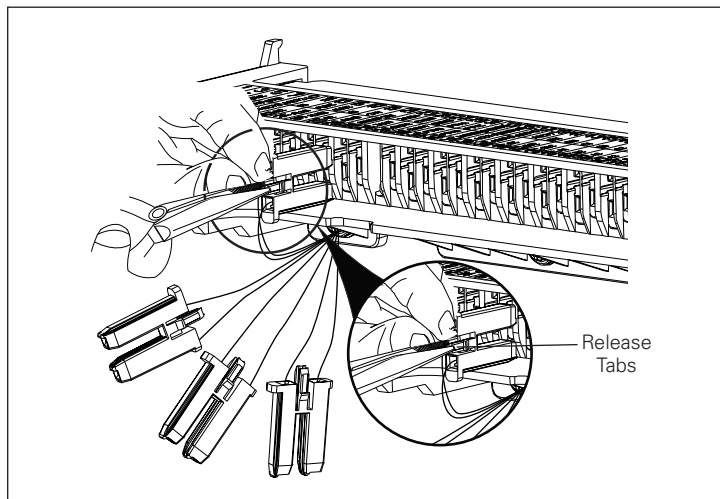
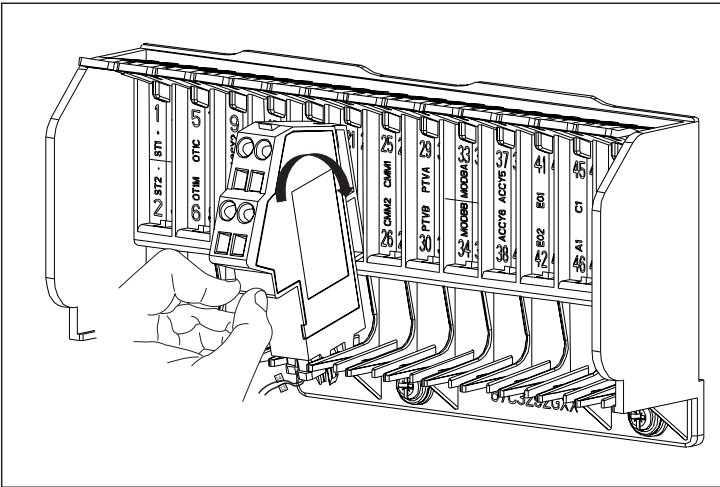

Figure 31. Connector Plug Removal.
Figure 35. Step 4.
2. Secondary connections are made by plugging the connector plugs into the appropriate location. A connector plug already connected can be removed by squeezing two release tabs together with small needle nose pliers and pulling out (Figure 31).
Step 5: To remove an accessory plug on a fixed circuit breaker, the appropriate fixed secondary terminal block must first be removed. To remove a fixed secondary terminal block, lift up on the small flexible mounting tab at the top of the fixed terminal block mounting plate, and rotate the terminal block out in the opposite direction shown in Figure 35. Once the terminal block is removed, the accessory connector plug can be unplugged from the bottom of the terminal block. Refer to Item 2 and Figure 31 under the heading “General information” in this section for detailed assistance with the removal.
Step 3: To remove an accessory connector plug on a drawout circuit breaker, unplug it from its secondary plug housing. Refer to Item 2 and Figure 31 under the heading “General information” in this section for detailed assistance with the removal.